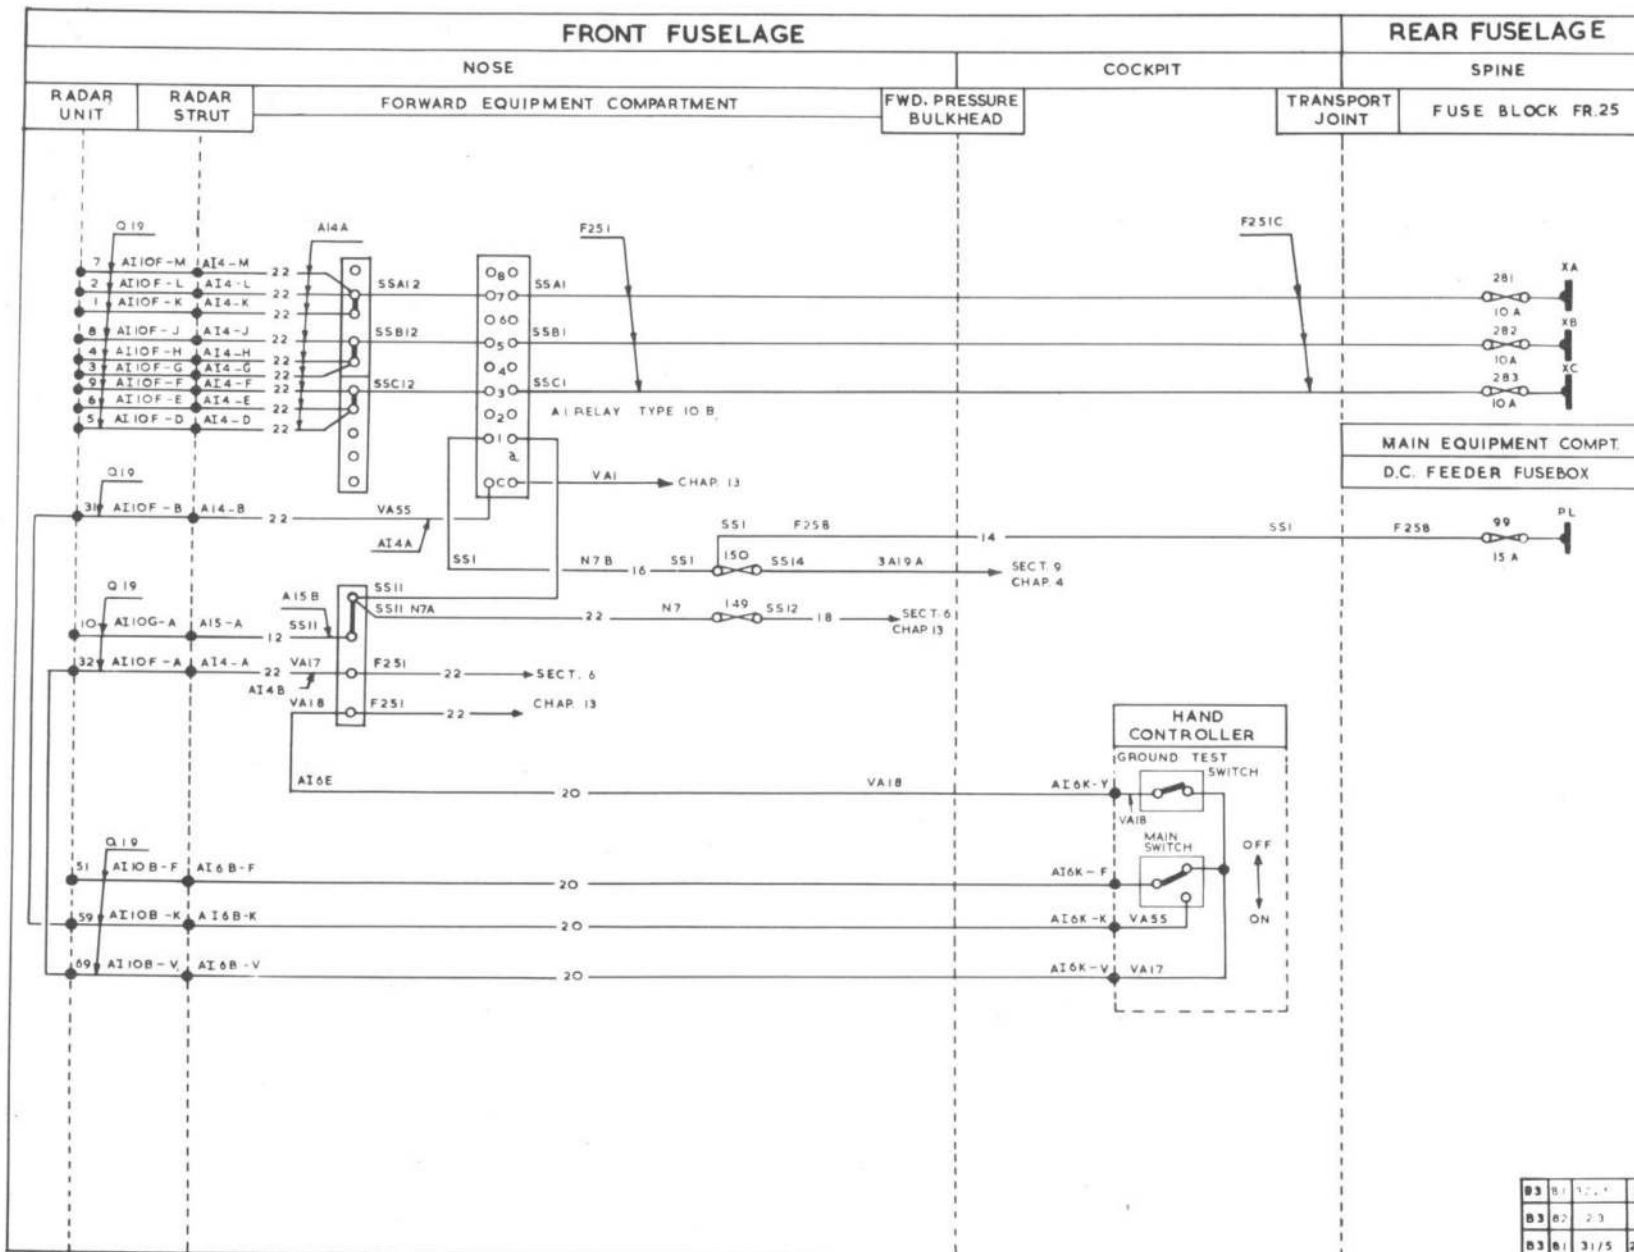
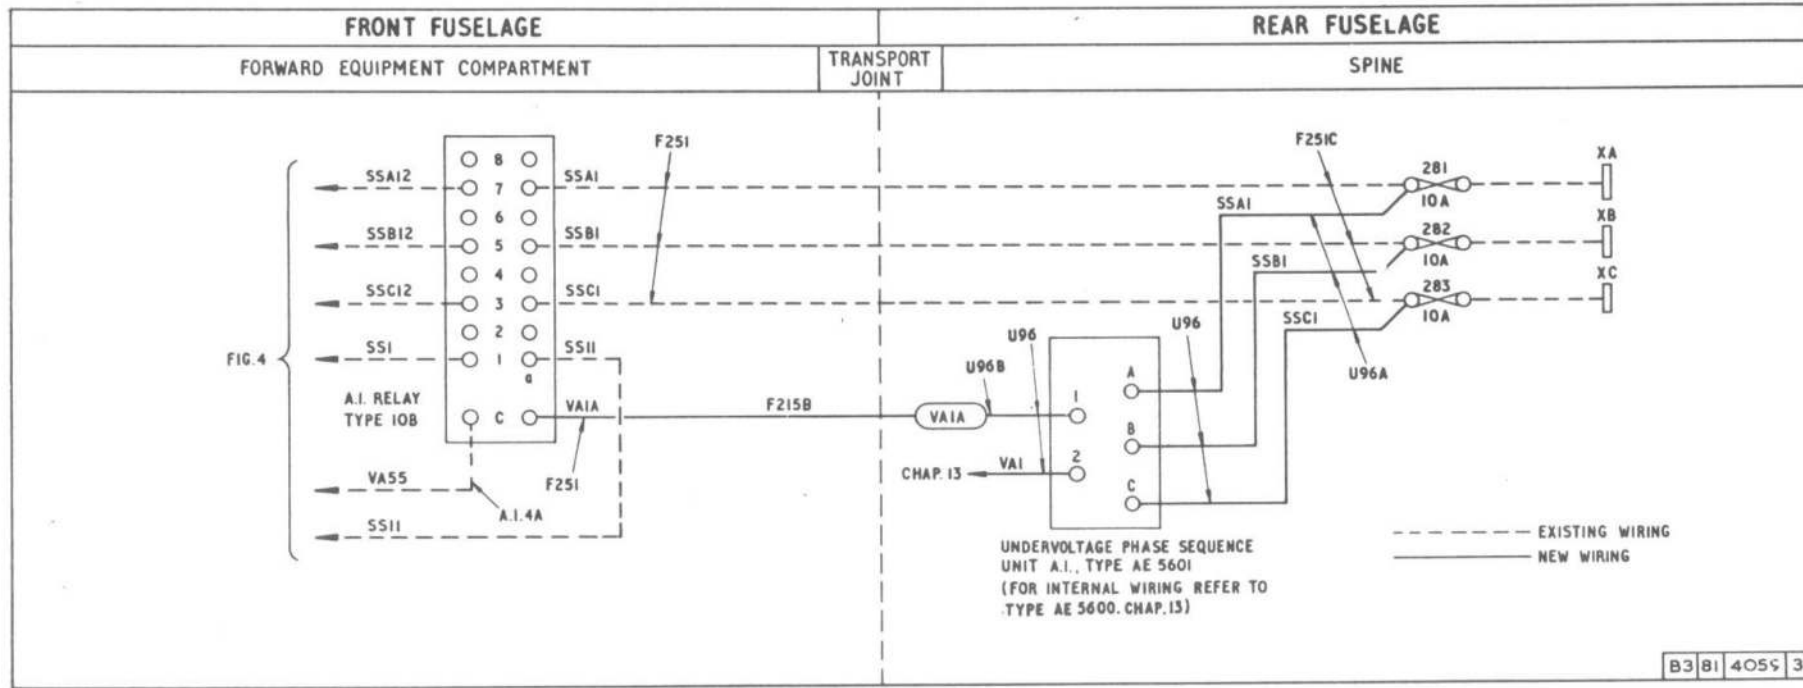

FIG. 5. A.I. 23 POWER SUPPLIES.
Fig.1. Alterations to fig.5 for Mod.4494
◀ Alterations to fig.5 for ▶
3. The location of the unit is shown in fig.1 of the main chapter whilst the alteration to fig.5, A.I.23 power supplies, is shown in fig.1 of this appendix. ▶